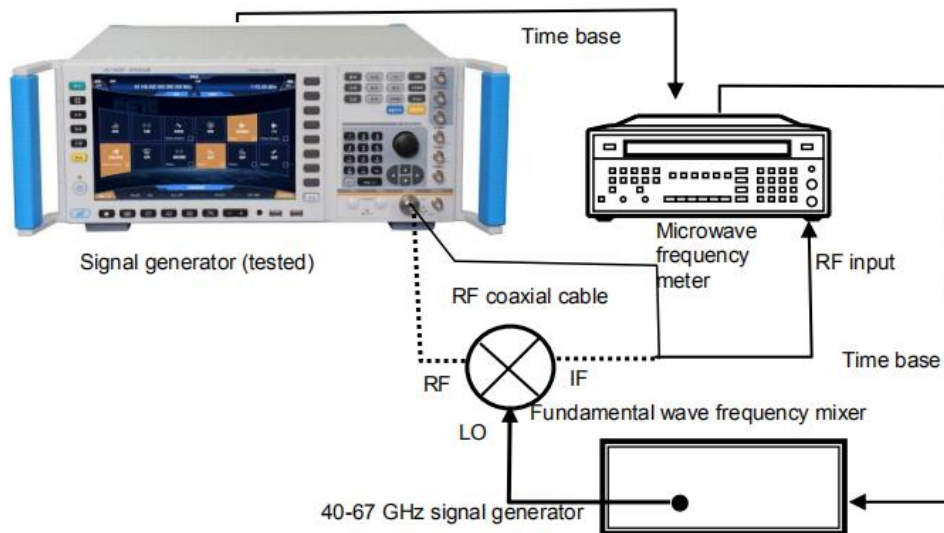

Fig.7.1 Frequency Range Test Block Diagram
Step 2. Connect the device as shown in Fig.7.1.